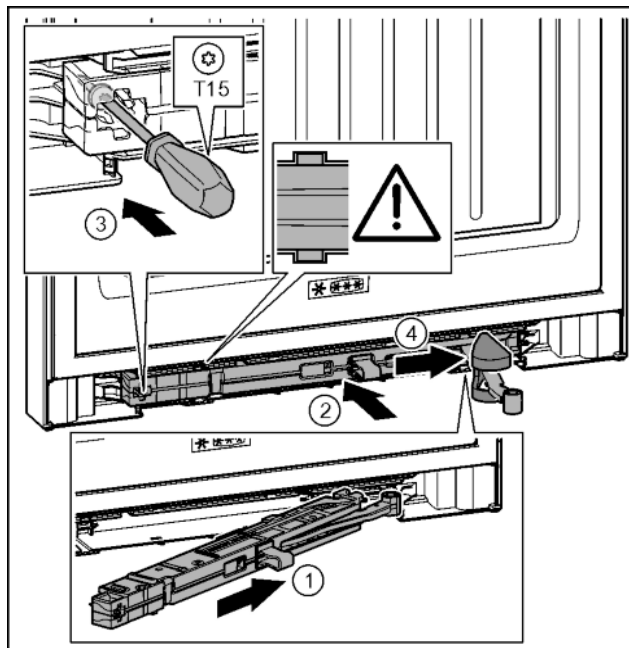

Fig. 39
- ▶ Slide the soft stop mechanism on the bearing bracket side at an angle into the slot as far as the limit stop. *Fig. 39 (1)*
- ▶ Slide the soft stop mechanism fully into the slot. *Fig. 39 (2)*
- ▶ Tighten the screw with the T15 screwdriver. *Fig. 39 (3)*
- ▶ Push the cover over the hinge. *Fig. 39 (4)*